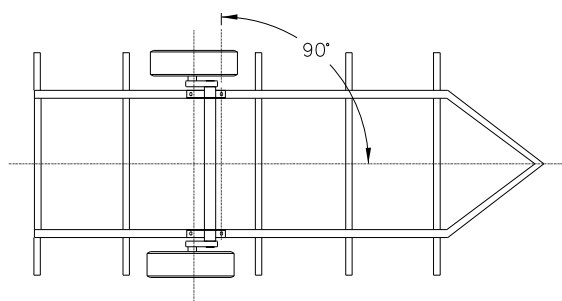

Figure 3
- Step 3:** Once the method of attachment is decided, the axle(s) must be carefully aligned on the trailer frame. The axle(s) centerline must be perpendicular to the longitudinal centerline of the trailer. See figure 3.